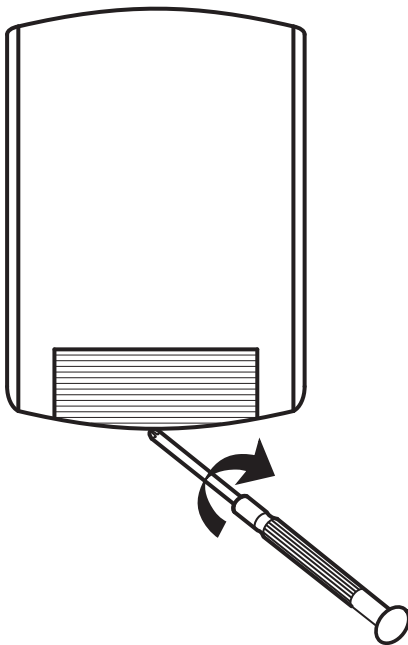

fig 4
- Hook the unit to the two screws and finally secure with the 3rd screw as shown in fig 4.